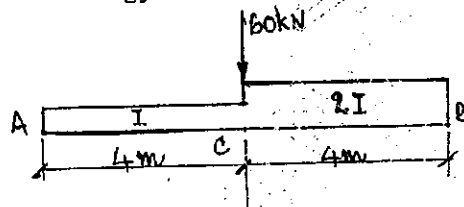

Fig.Q5(b)
- b. Determine the deflection under the given 60 kN load acting on the beam as shown in Fig.Q5(b) by strain energy method.